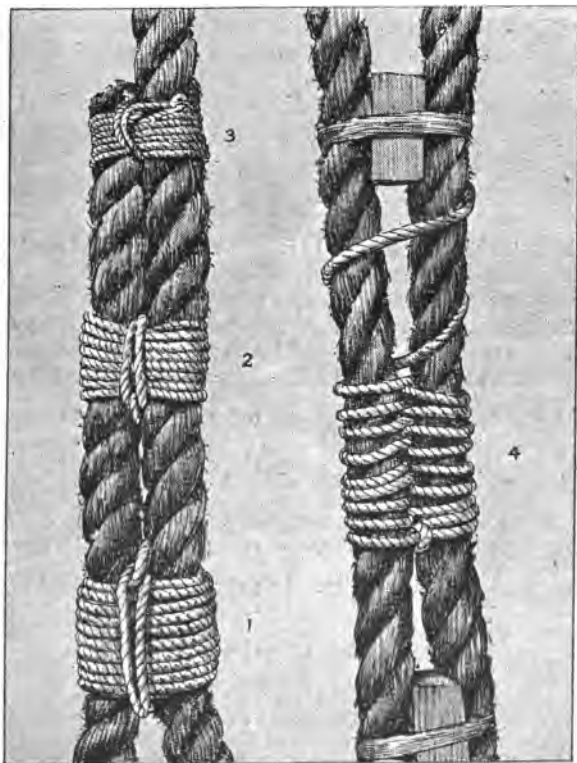

FIG. 17.—SEIZINGS OF ROPE.
The principal seizings in use are: the throat (1), quarter or round (2), end (3), and racking seizings (4). The throat and quarter are elaborated end seizings. Racking seizings are used for racking two ropes together to keep them from slipping. The quarter or round seizing (Fig. 17) is made as follows: Take a piece of amber line and splice an eye in it; place it round the parts to be seized, and reeve the end up through; then take from six to ten turns round the parts of the rope, heaving all well tight; then bring up the end through the end bight, take two riding turns, heave all taut, and pass the end through riding turns to form a reef knot. In the throat seizing, riding turns would be taken. In seizing over a served rope, a strip of canvas should be laid in the service to prevent the turns of the seizing stuff working in between the parts of the service.